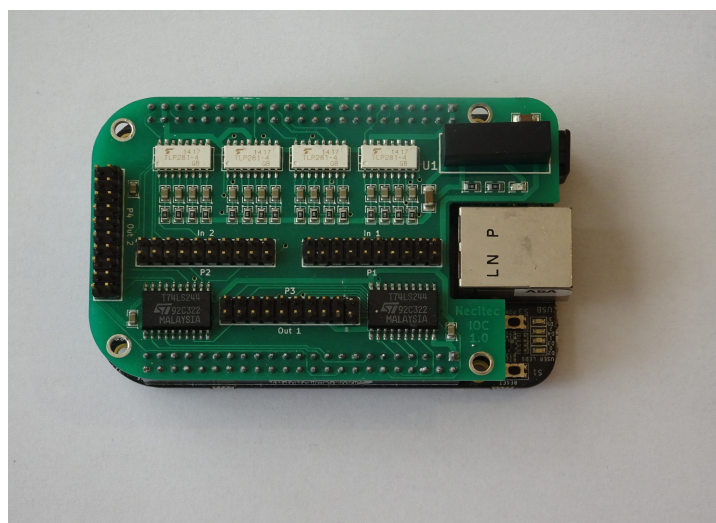

Figure 1: Panther cape inserted in a Beaglebone Black board.
2. Insert your Panther cape into the connectors of your Beaglebone Black computer. Be careful to insert the board in the right direction! The ethernet connector must fit into the space of the cape. See Figure 1 below. All of the pins of the board must fit into the two sockets of the Beaglebone.